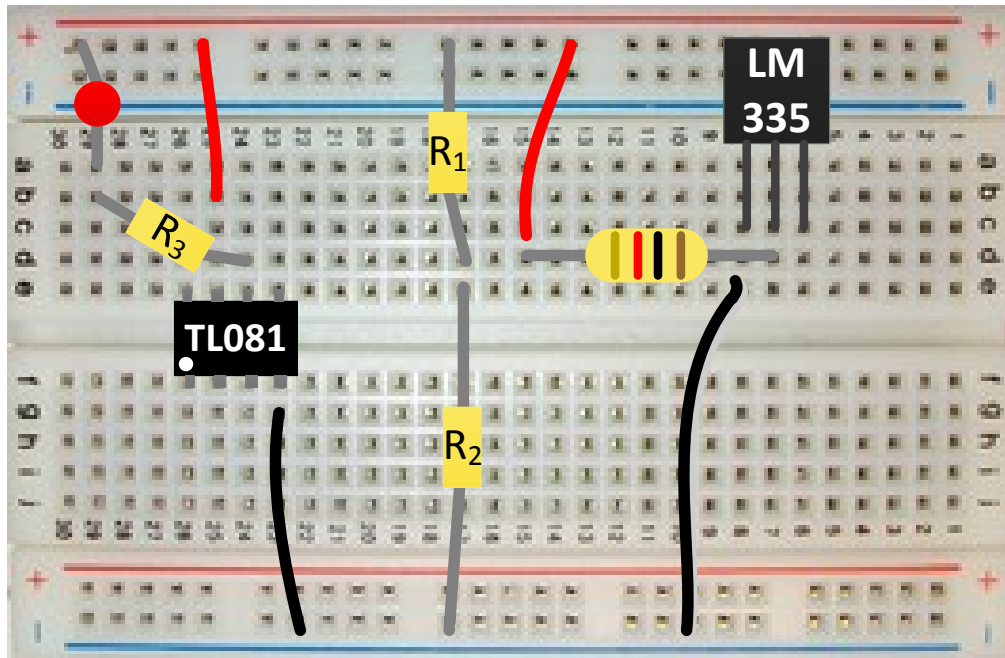

Figure 5: Temperature sensor with comparator circuit added.
7. Add the comparator circuit and indicator LED to the breadboard as shown in Figure 5. Note, no values have been given for R_1 , R_2 , and R_3 . This is the part where you design the circuit values.